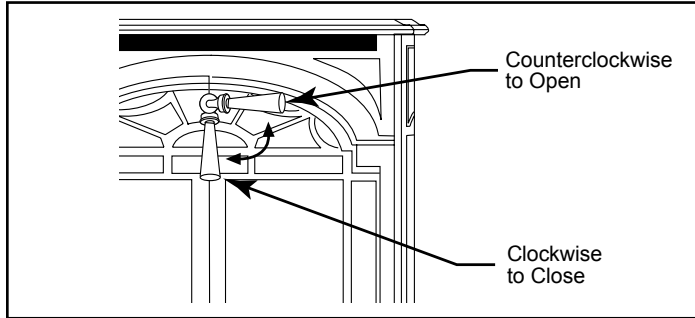
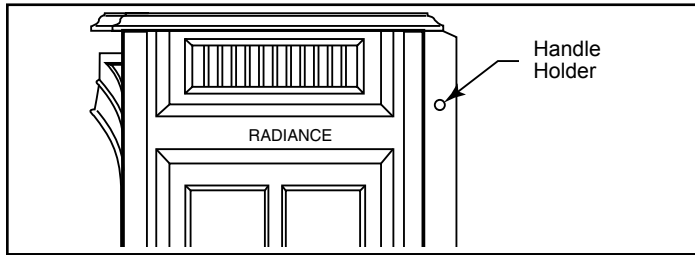

Fig. 22 - To open the front doors, turn handle counterclockwise.
Fig. 23 When not in use, store handle in the handle holder.
2. Install the rear left log by placing it on the sheet metal shelf at the back of the firebox. (Fig. 22) The log should touch the back wall of the firebox. Slide the log to the left until the left side lines up with the left bracket. (Fig. 22) When the log is in place the left front corner of the log should rest on the decorative grate.
3. Install the rear right log by placing it on the sheet metal shelf at the back toward the right. Make sure the right side of the log lines up with the right bracket. (Fig. 22) **NOTE:** When the right and left rear logs are in place, they should touch the back of the firebox and each other.
4. Install the right log by engaging hole on the bottom with pin on the right rear log. (Fig. 22) Set the bottom of the log on the bracket and bring forward to come in contact with decorative grate on right.
The Radiance is shipped with the operable door front plate. The stove may be operated with the doors either open or closed. To open the front doors, insert the handle provided into the door latch stub and turn it to the right and up. (Fig. 22) When not in use, the handle may be stored in the handle holder on the right side of the rear shroud. (Fig. 23)